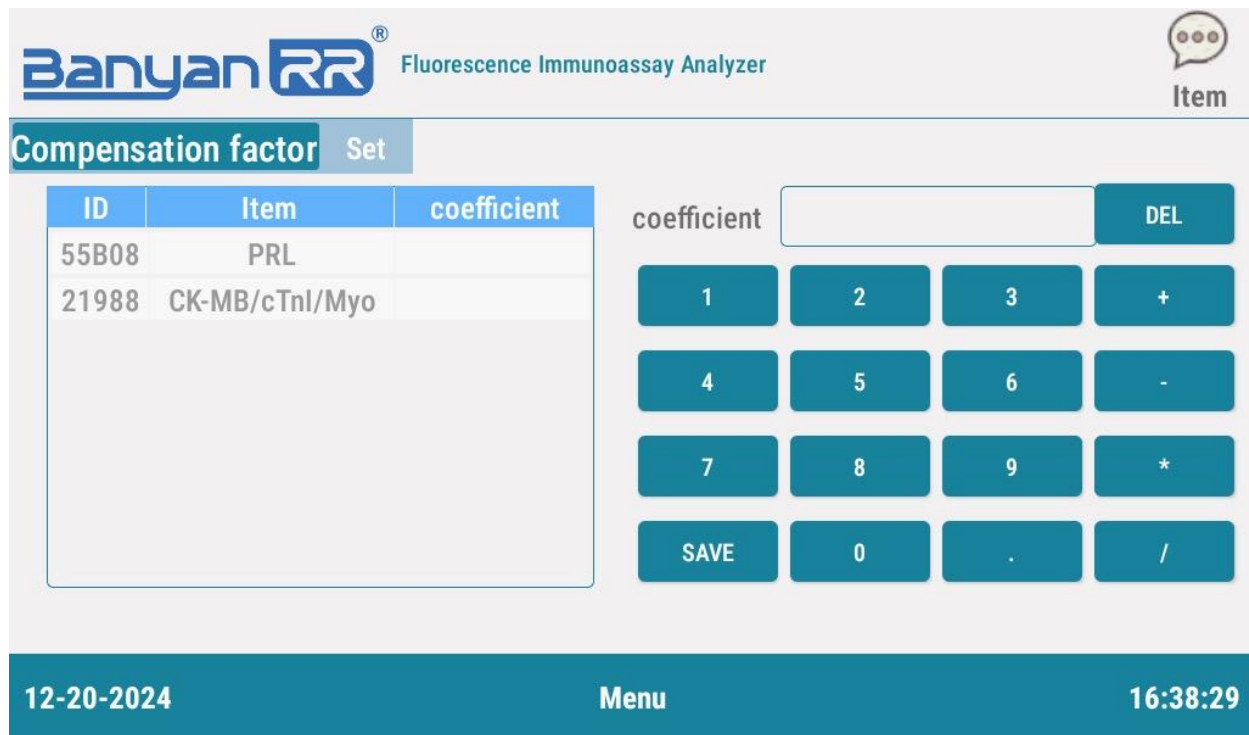

Fig. 4.7
1.As shown in Fig. 4.7, in the "coefficient" item of the compensation coefficient, "symbol + number" can be input;